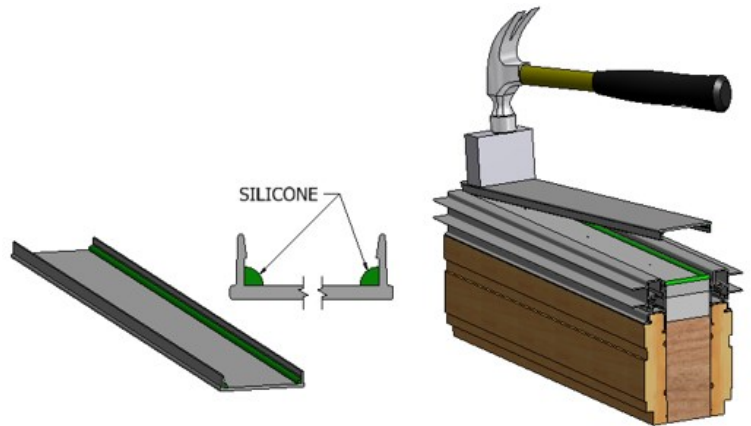

Figure 8
N. Apply 3/16" silicone to mull covers inside legs (figure 8).